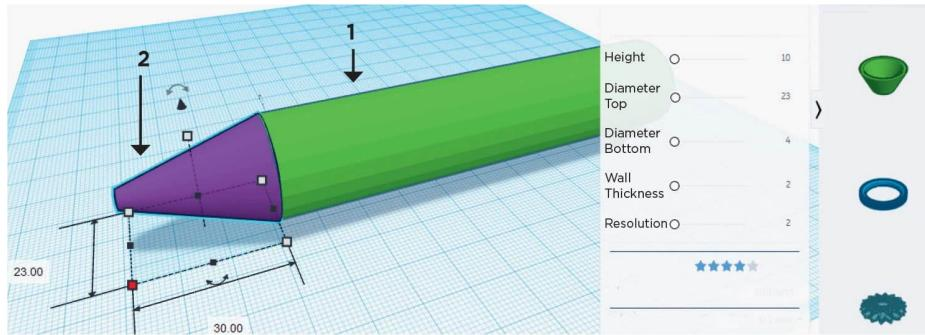

FIG. 2: Make the body casing by joining a cylinder and a snipped cone.
2. We will model using basic 3D elements to represent shapes. The body casing looks like a hollow cylinder that tapers on one end. We will model it as the combination of a regular hollow **Cylinder** (fig. 2, arrow 1) and a regular hollow **Cone** that is snipped on the narrow end (fig. 2, arrow 2). The cone is snipped on one end to allow for the refill to exit the casing. The hole in the cone tip must be 2.5 mm (or slightly larger than the diameter of the refill you